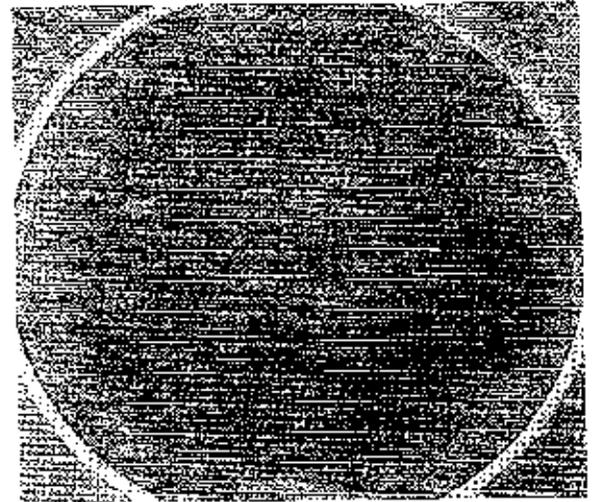

Figure 1
- Excessive build up of dust and oils, as shown in figure 1, must not be permitted.